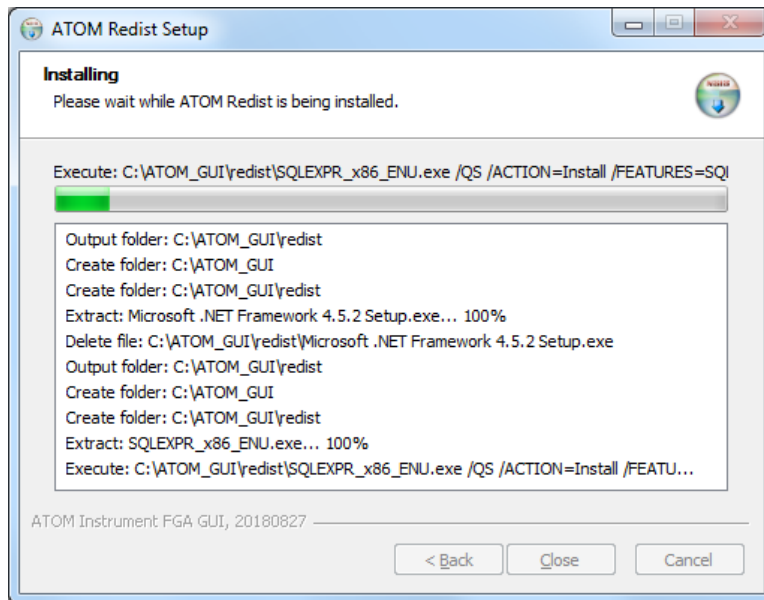

Figure 3.9
- The installation process will begin (no user intervention is necessary) (*Figure 3.9*).